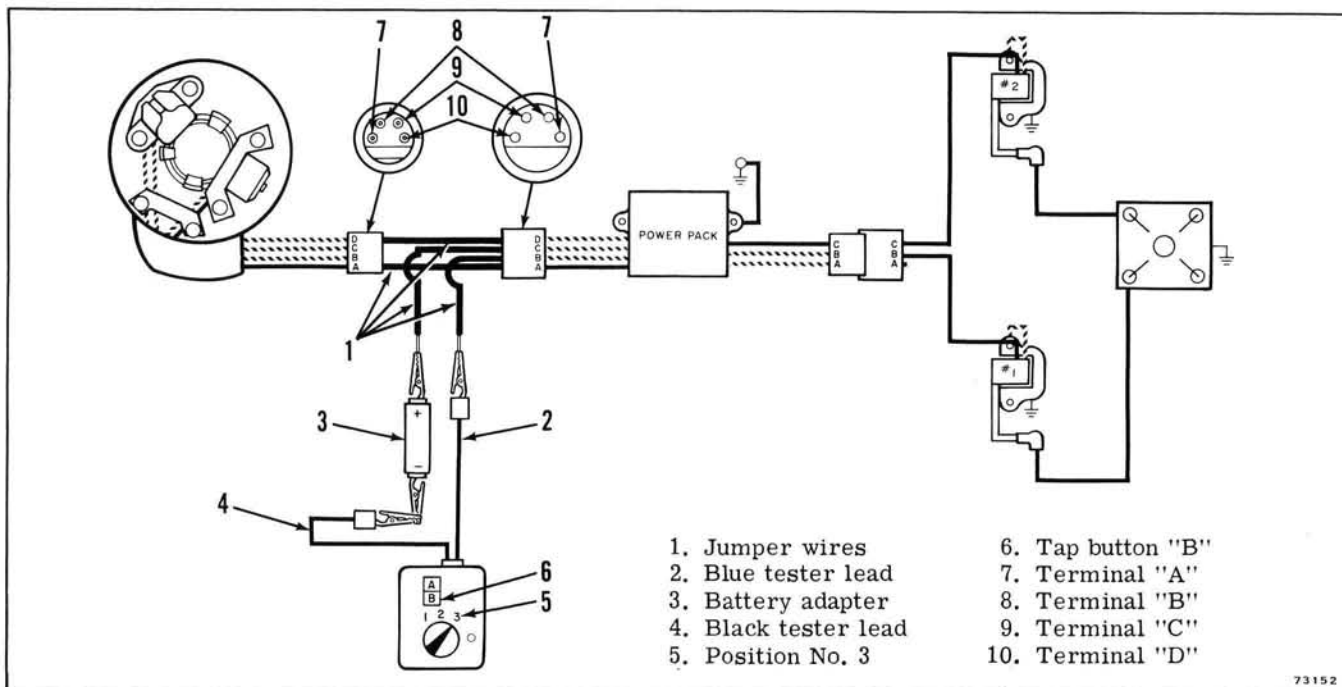

Figure 4-24. Trigger Input Test
c. Insert a jumper wire between the "A" terminals of both four wire connectors. See Figure 4-24.
d. Insert a jumper wire between the "D" terminals of both four wire connectors. See Figure 4-24.
e. Attach a jumper wire to the blue lead of the neon tester, then insert the jumper wire to terminal "B" in the power pack end of the four wire connector. See Figure 4-24.
f. Connect a jumper wire to the positive (+) side of the battery adapter, (on M-90 neon testers, connect the jumper wire directly to the black lead of the tester), and insert the jumper wire to terminal "C" in the power pack end of the four wire connectors. See Figure 4-24.
h. Crank the engine with the starter rope and tap load button "B." When load button "B" is pressed, spark should jump at the gap of the spark tester connected to No. 2 ignition coil only. See Figure 4-24. If a spark occurs at both gaps of the spark tester during this test, replace the power pack.